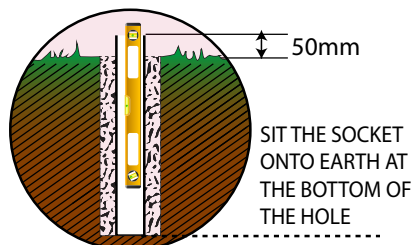

Fig 1b,
- 3, For a temporary installation use a ground auger and pack with sharp sand and soil to secure the ground socket, use a level to check the socket is vertical and plumb checking at intervals as you infill the hole. Make sure there is 50mm of socket left above ground. (see fig 1b)